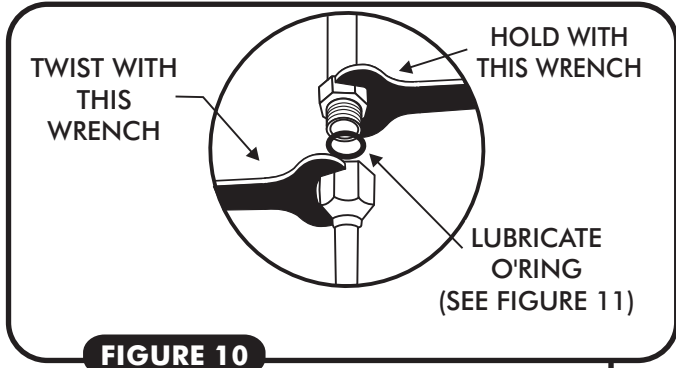

FIGURE 10
- INSTALL THE #6 AND #8 CONDENSER LINES THROUGH 1/4" HOLE. LUBRICATE O-RINGS (SEE FIGURES 10 & 11, PAGE 12) AND CONNECT LINES TO CONDENSER
- ON A WORK BENCH, INSTALL EVAPORATOR REAR BRACKETS, AND INSTALL EVAPORATOR HARDLINES WITH PROPERLY LUBRICATED O-RINGS. (SEE FIGURE 17, PAGE 18, AND FIGURES 10, 11 & 12, PAGE 12.)
- LOCATE THE #8 COMPRESSOR ALUMINUM HARDLINE. LUBRICATE (1) #8 O-RING AND INSTALL ON THE FEMALE O-RING END. CONNECT THIS LINE TO THE #8 DISCHARGE PORT ON THE COMPRESSOR, AND TIGHTEN. SEE FIGURES 10 & 11, PAGE 12.